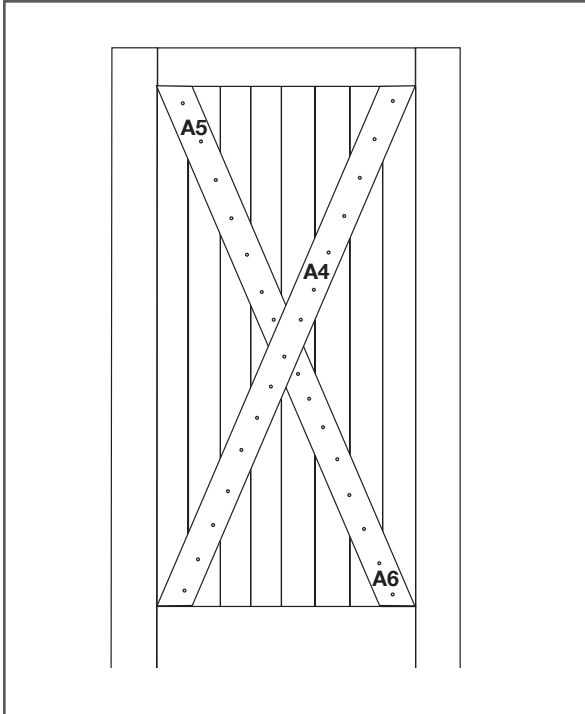

Figure 6
6. Lay the Diagonal Overlays (A4, A5, A6) across the slats. Attach to slats and with phillips screws (C) using a drill with a phillips bit (Figure 6).